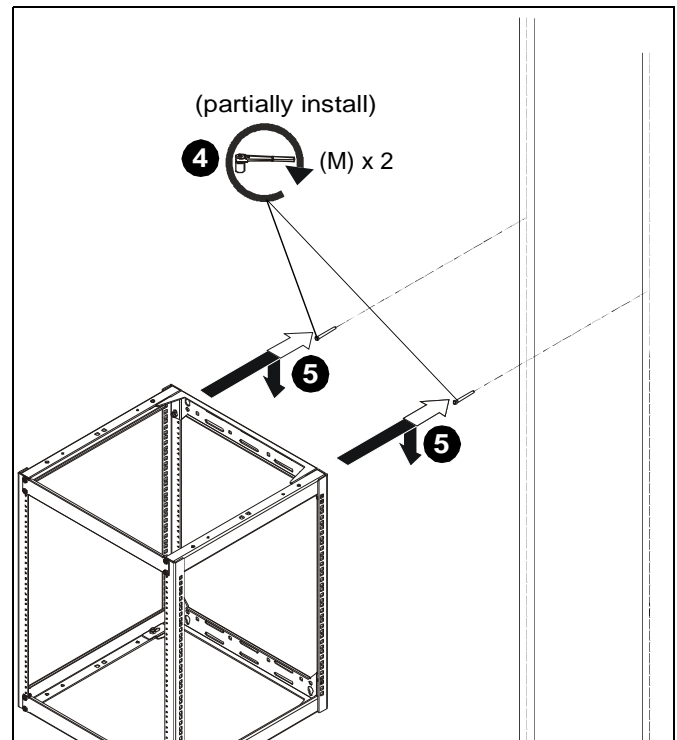

Figure 11
- Partially install two 5/16" x 3 1/2" lag bolts (M) into upper holes. (See Figure 11)
- Hang rack onto partially installed bolts. (See Figure 11)